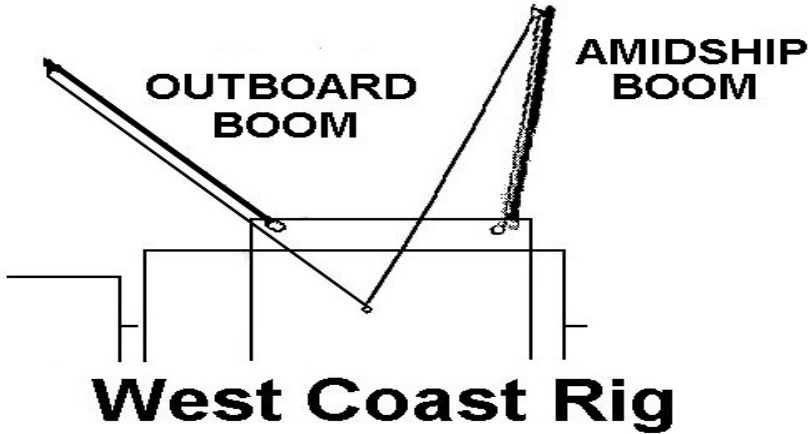

Figure 3-35
2. Rig a west coast rig (see Figure 3-35).